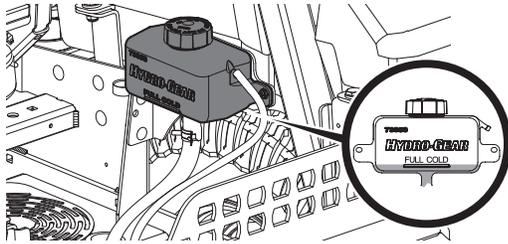

Figure 38
2. Turn the reservoir cap counterclockwise to remove, then check the oil level in the reservoir. Oil should be visible at the bottom of the cup, but the oil level must NOT be above the "FULL COLD" line (Figure 38). DO NOT FILL THE RESERVOIR.